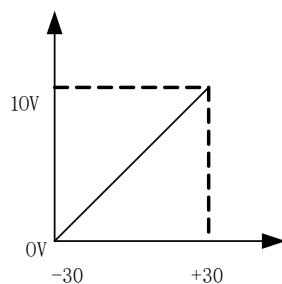

Figure 4-13 Corresponding relationship between synergic voltage deviation values
2. The corresponding relationship between synergic given voltage deviation values is shown in Figures 4-13;